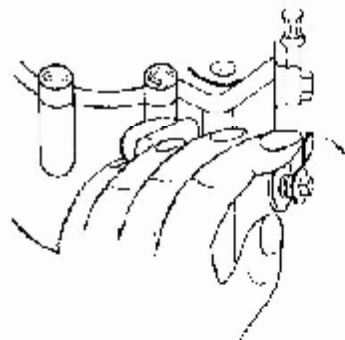

图4 (Fig4)
4.If something unusual happens like wrong position of the belt, the notch not contacting the notching tool and you want to stop during operation,you should turn the lock rod. Regulator,By hand,the strapper will remain the original state automatically.that is,you can resume your work. See Fig4.